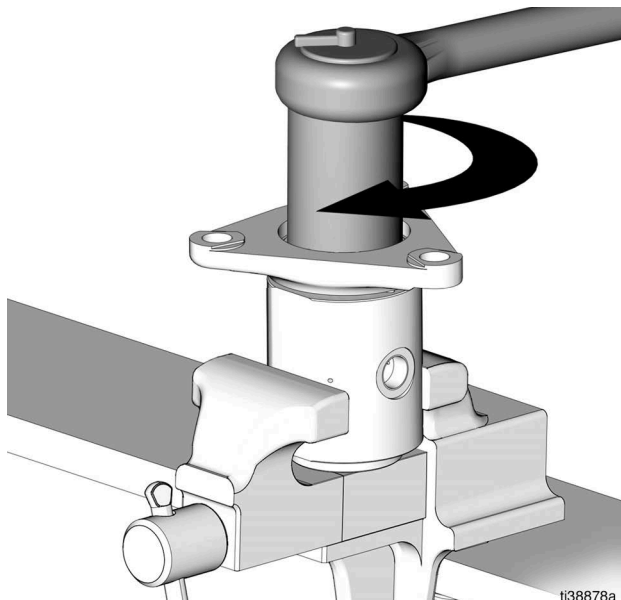

FIG. 21
5. Using a 2 in. socket, reinstall the throat seal retainer nut (19) and tighten (torque 150 - 165 ft-lb/203.4 - 223.7 N•m) (FIG. 21).